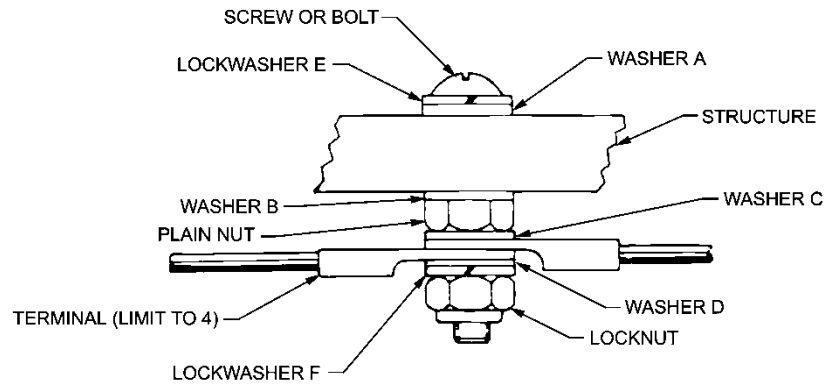

Figure 13-1 Stud Bonding or Grounding to Flat Surface
11. Use AN nuts, either plain or self-locking, where indicated in Figure 13-1 and Figure 13-3. Use an all-metal, self-locking nut if practicable. Always use an all-metal, self-locking nut where current will be present. Where installation conditions require, use an AN nut-plate, riveted to structure.
12. Use AN plain washers and split lock washers as indicated in Figure 13-1, Figure 13-2 and Figure 13-3. Unless otherwise directed by applicable equipment technical order, use split lock washers with nuts, either plain or self-locking. With aluminium terminals, use a plain washer of at least the diameter of the terminal tongue, next to the aluminium terminal. If an AN washer does not meet this requirement, use a washer of the SAE heavy series, or a special washer made for this application.
(Refer to Figure 13-1)
- a. **Stud Connection.** In this type of connection, a bolt or screw is locked securely to structure, thus becoming, in effect, a stud. (See Figure 13-1 and Table 13-1.) Grounding or bonding jumpers can be removed or added to the shank of stud without removing stud from structure. Not more than four lugs should be connected to any one stud.